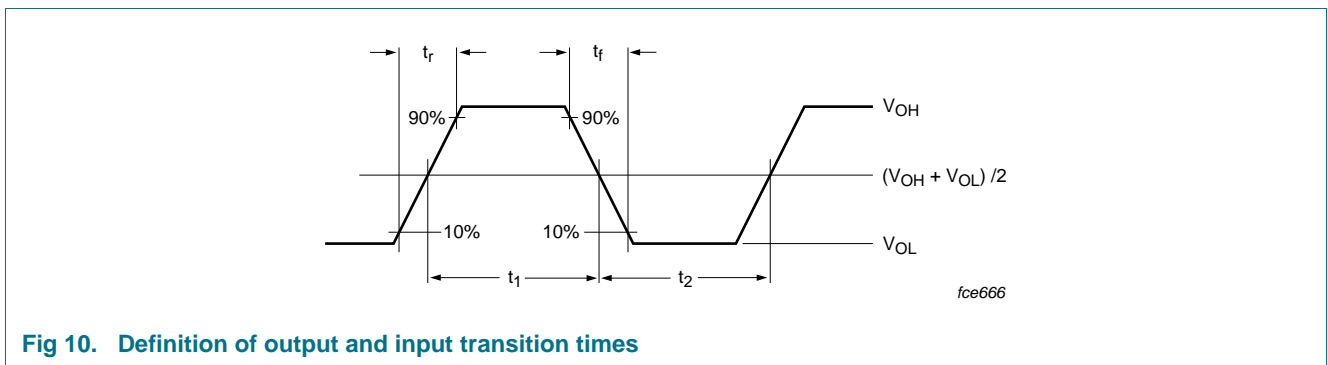

Fig 10. Definition of output and input transition times
- [2] The transition time and the duty factor definitions are shown in Figure 10 on page 18; $d = t1/(t1 + t2)$